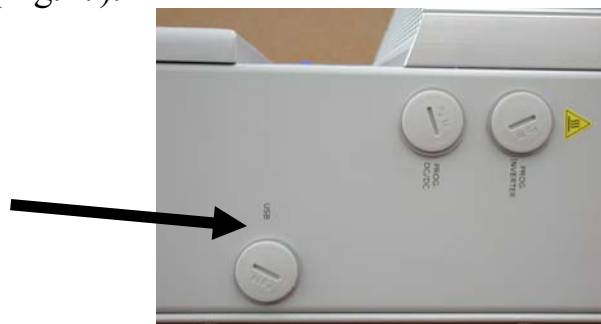

Fig.17 USB port
- Data transmission via USB cable. This type of connection is typically used when monitoring a single inverter and for maintenance purposes. To connect the USB cable, remove the waterproof plug at the bottom end of the inverter right wall (Fig.17).